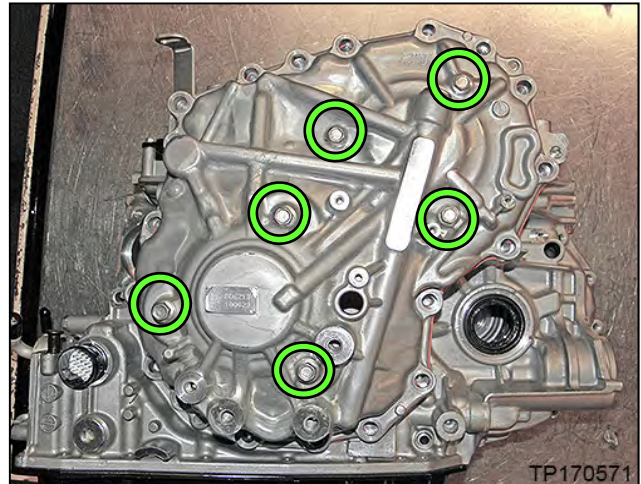

Figure 76
- Install the Lifting Fixture to the CVT case at the six (6) bolt holes shown in Figure 76.
- 1) Tighten the lower six (6) wing-nut bolts.
- 2) Tighten the two (2) joint to triangle brackets.
- 3) Tighten the top two (2) wing-nut bolts, and then proceed to step 57 on the next page.